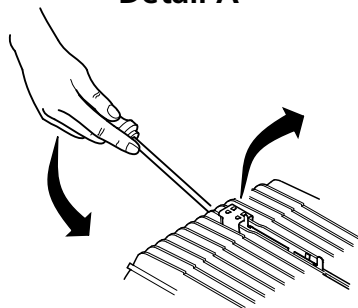

Fig. 903 Change control unit, overheating sensor and combustion and hot air fan (drive unit)
When you fit the bottom shell (4), spread it slightly so that the spacers on the overheating sensor (8, Fig. 903) are not damaged.
3. Disconnect plug connections on control unit (3, Fig. 903).
4. Remove screws (4).
5. Slide the control unit (3) towards the hot air fan and remove it upward.
1. Insert control unit (3, Fig. 903) on combustion and hot air fan (1), slide toward fan housing and fasten with screws (4).
2. Tighten the screws (4) to  $3.0 \pm 0.3$  Nm.
3. Disconnect plug connection X3 from control unit (3, Fig. 903).
4. Lever overheating sensor (8) out of heat exchanger's ribs using a suitable tool (see Detail A).
1. Conduct resistance measurement on overheating sensor (8, Fig. 903) (see 6.4.5).
2. Position overheating sensor (8) and press it into place by hand.
3. Ensure that overheating sensor is correctly positioned in heat exchanger (7).
4. Connect plug connection X3 to the control unit (3).
Only replace the drive unit (1, Fig. 903) with a drive unit with the same rating data and the same ID No.
1. Make sure that sealing surfaces on combustion and hot air fan (1, Fig. 903) and heat exchanger (7) are not damaged.
2. Fit a new flat seal (6) on the flange of the combustion and hot air fan (1).
3. Move combustion and hot air fan (1) into assembled position and fasten with screws (2).
- 2 Torx screw (8)